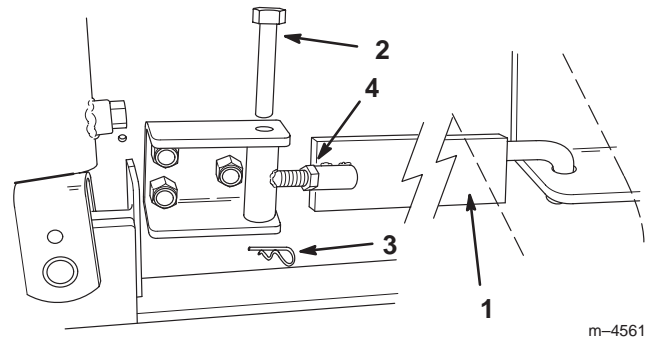

Figure 13
- If you are installing the backhoe on a Dingo 200/300 series traction unit, install the side bars on each side as illustrated in Figure 13. The decal on each side bar must be visible when installed.
Important If the bars do not fit snugly, remove them, loosen the jam nut, and thread the compound side bar together or apart as needed to ensure that they fit as tight as possible (Fig. 13). Tighten the jam nut when finished.
- A. Remove the hairpin cotters and pins securing the side bars and remove the side bars (Fig. 13).